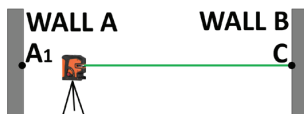

Figure 23
2. Rotate laser 180°. Mark beam height on Wall B as point C. (Figure 23)